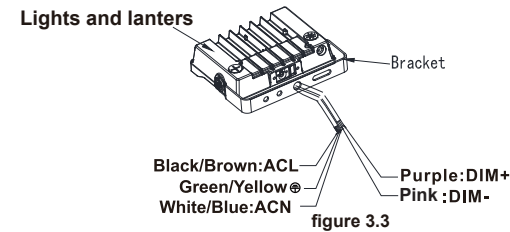

figure 3.3
Step 2: Finish the wire connection according to the right mode of connection (pay attention to positive wire, negative wire, and ground wire).(figure 3.3)